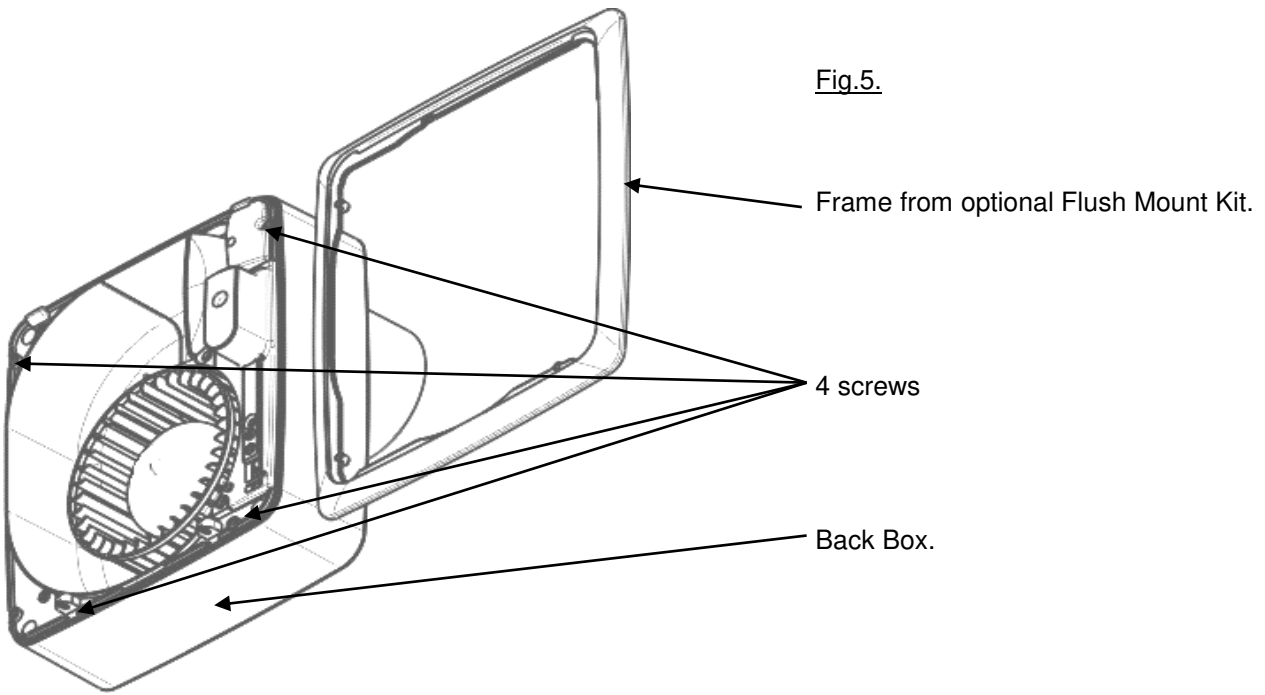

Fig.6.
4. Pass each of the long Panel Clip Screws (*fig.6*) supplied in the kit fully through the flange of the Chassis and screw in to the four Panel Clips allowing enough space between the clip and the flange for the thickness of the panel (so that the clips can spring open behind the panel).